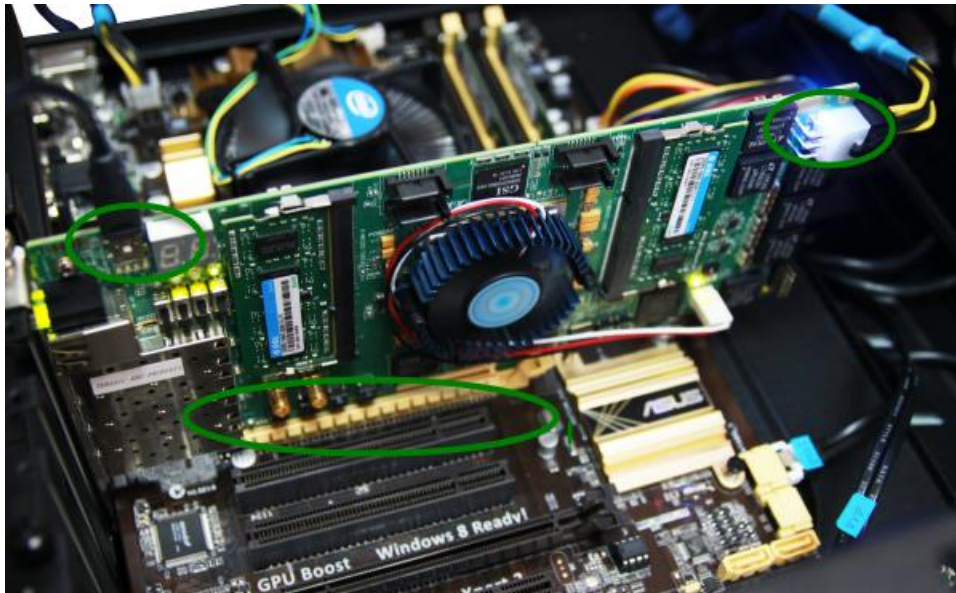

Figure 7-9 FPGA board connect to PC
1. Install the FPGA board on your PC as shown in **Figure 7-9**.